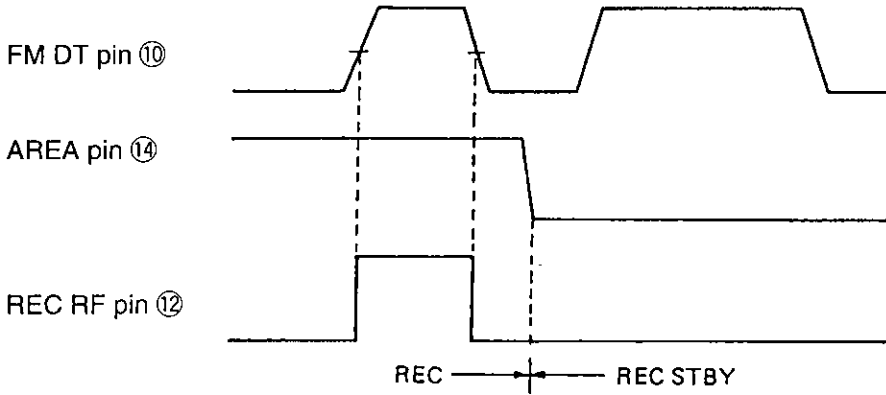

Fig. 2 Electrical characteristics measuring circuit
Standard pin voltage (DC): See Fig. 2